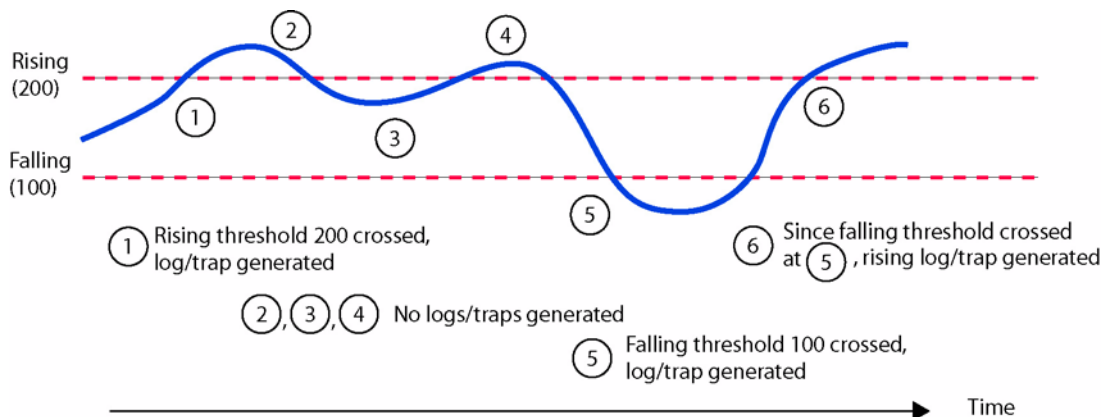

FIGURE 9-2 Thresholds for RMON Statistics
- During the time interval, once the falling threshold is crossed, the rising threshold trap/log is produced again (this is explained in Figure 9-2).
Figure 9-2 shows how the rising and falling thresholds work for the RMON statistics.